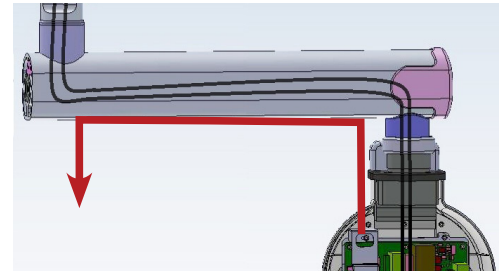

Figure 71
- Pull out the cables from the straight-arm and take it out through the bottom side hole at the free end of the straight arm as shown in Figure 71 .